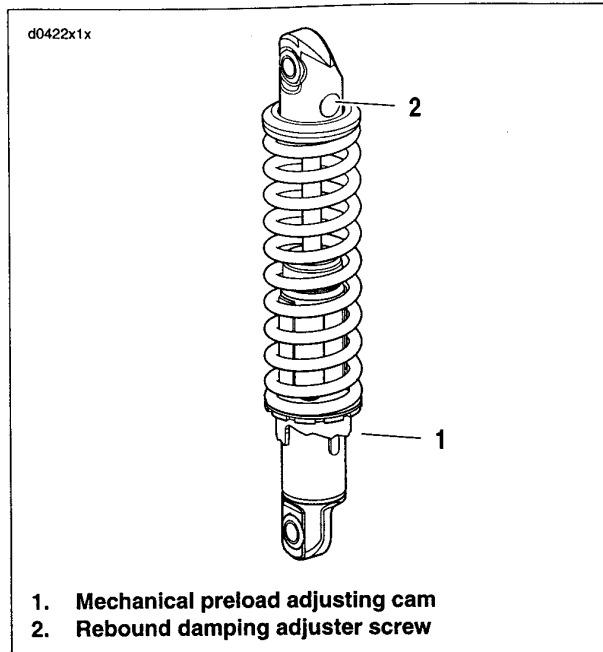

**Figure 1-42. Preload Adjustment**
2. See Figure 1-42. With the motorcycle unloaded, take the following measurements.